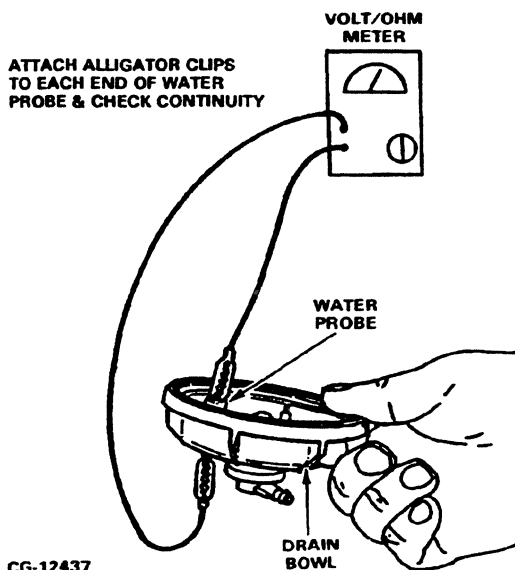

Figure 9.17B. Water Probe Continuity Check
- Check the probe for continuity as shown in Figure 9.17B. If continuity is **NOT OK**, replace the probe.